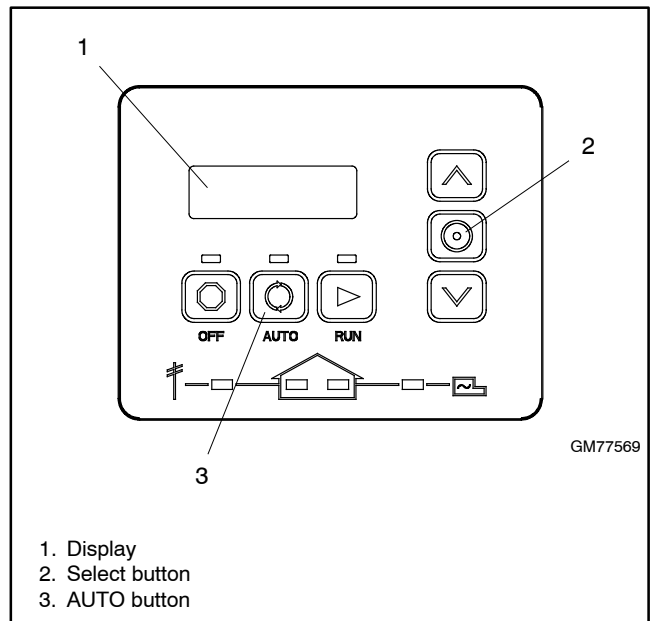
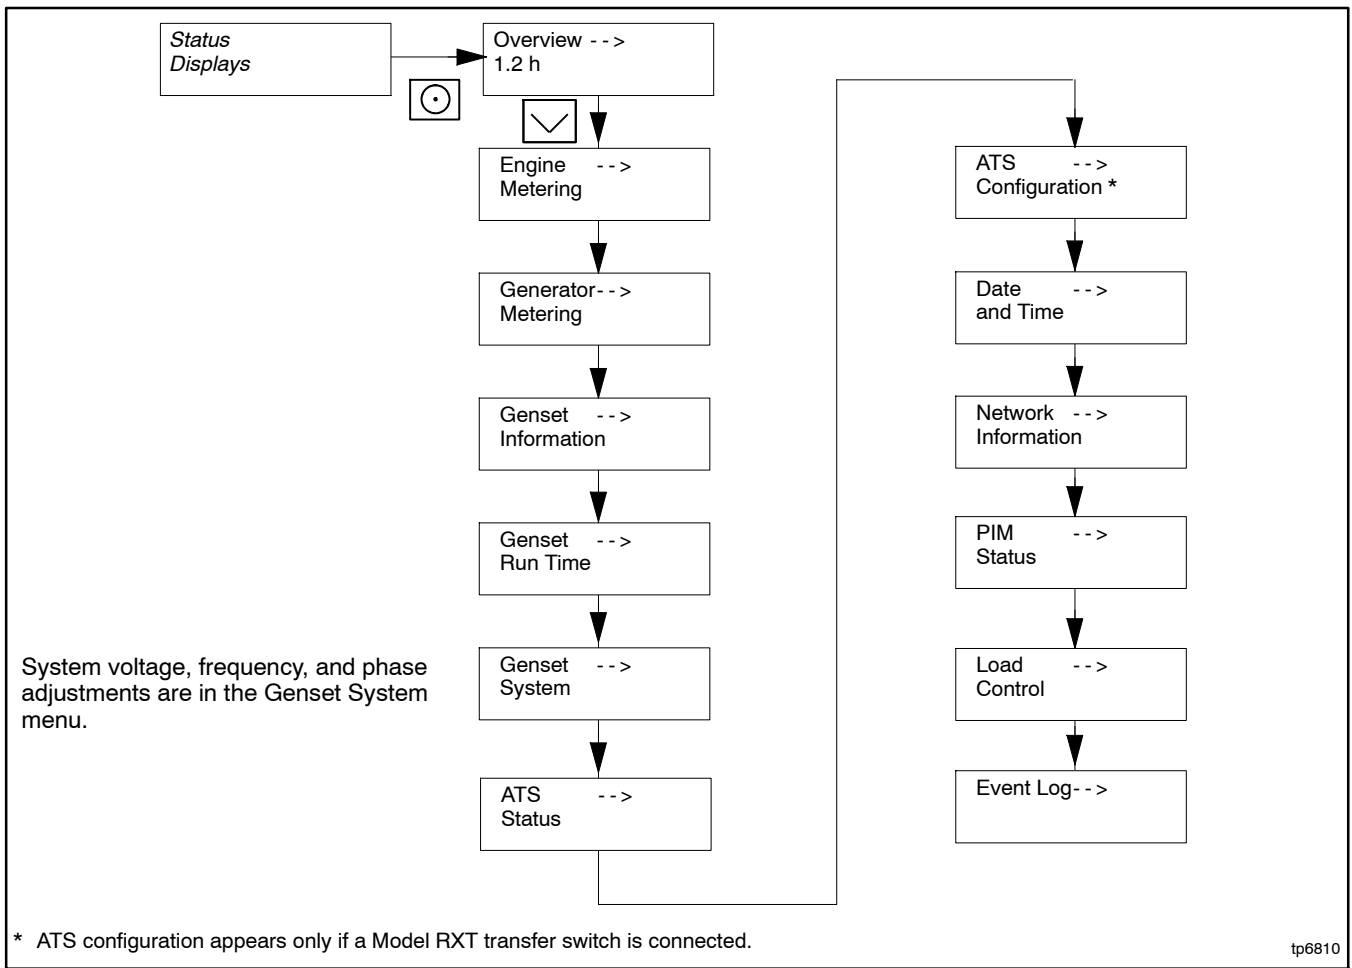

Figure 3-3 RDC2 Controller User Interface
Figure 3-4 RDC2 Main Menu
1. Press the Select button to enter the main menu. See Figure 3-3 and Figure 3-4. The Overview screen will be displayed.
2. Press the down arrow button to navigate to the Genset System menu. See Figure 3-4.